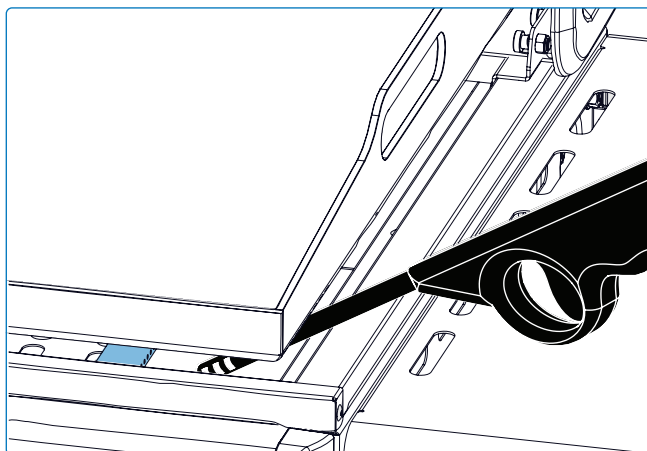
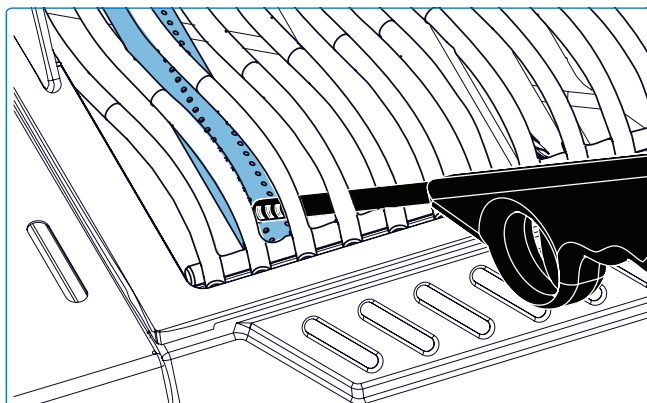

Fig. 13
Fig. 14
2. Light a long-reach match or butane lighter and position it close to the burner ports (**Fig. 13**, **Fig. 14**).